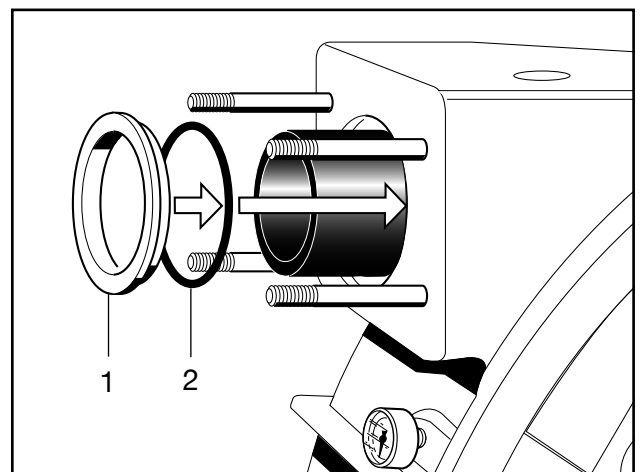

Fig. 33 Assembling the stepped ring
4. First, completely assemble the connecting socket on the discharge side. Start by assembling the new O-ring (item 2, Fig. 33) followed by the stepped ring (item 1, Fig. 33).